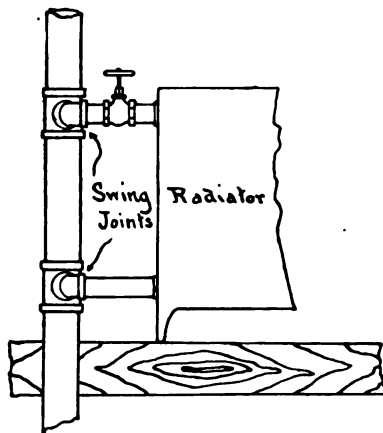

Fig. 63.—Radiator Connected for Overhead System.
A. Usually with the flow at the top and the return at the bottom of the same end and swing joints are employed on the drop riser in making the connection. Fig. 63.